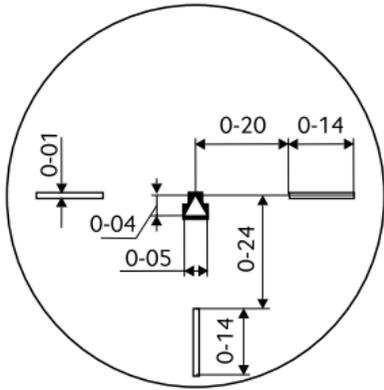
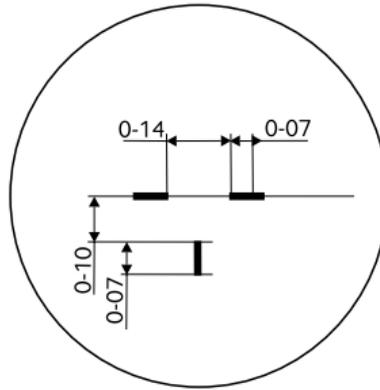
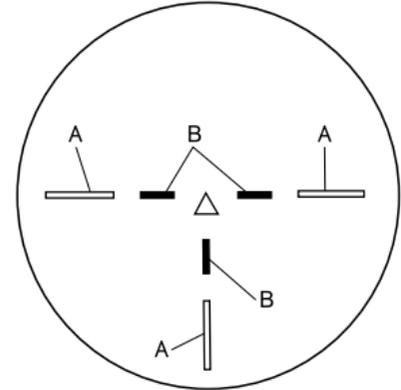

Figure 2
Figure 3
Figure 4
Aiming mark shape and color in the daytime: <ul style="list-style-type: none"> • triangle, two horizontal strokes, and one vertical stroke of white color (Figure 2) at night: <ul style="list-style-type: none"> • two horizontal strokes and one vertical stroke of green color (Figure 3) at dusk: <ul style="list-style-type: none"> • triangle and strokes A of white color, strokes B of green color (Figure 4)
- in the daytime (Figure 2), it is two horizontal strokes, one vertical stroke, and a triangle, all of white color;
- in the night time (Figure 3), it is two horizontal strokes and one vertical stroke, all of green color;
- at dusk (Figure 4), it is four horizontal strokes, a triangle, and two vertical strokes.
Aim weapon at a target in the daytime and at dusk against the reticle aiming mark triangle (Figures 2, 4), and in the dark, by having the target symmetrically located between the horizontal strokes (Figure 3).